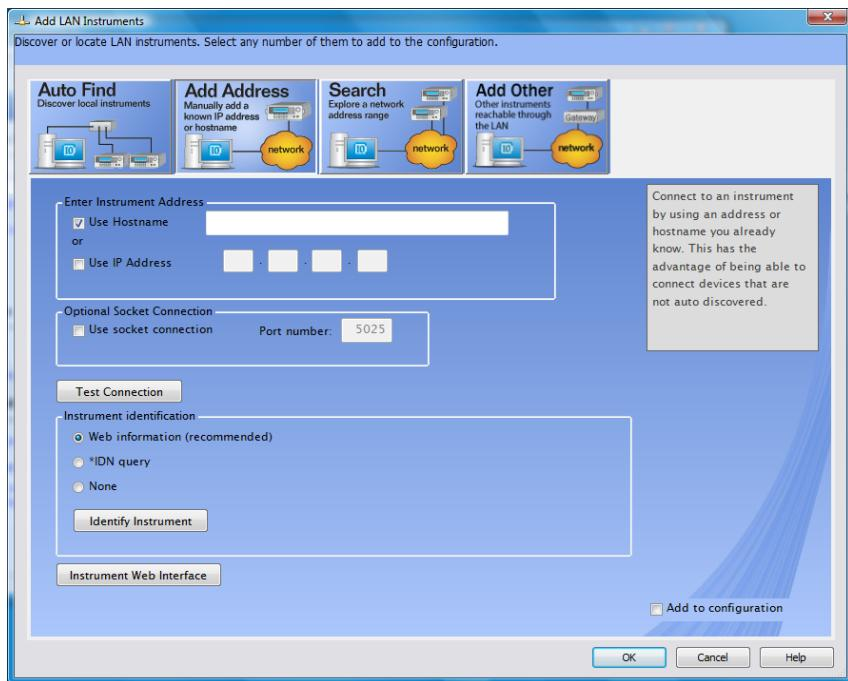

Figure 36 Add LAN Instruments Add Address Dialog screen
- From the Add LAN Instruments screen, select the Add Address tab. (Figure 36).